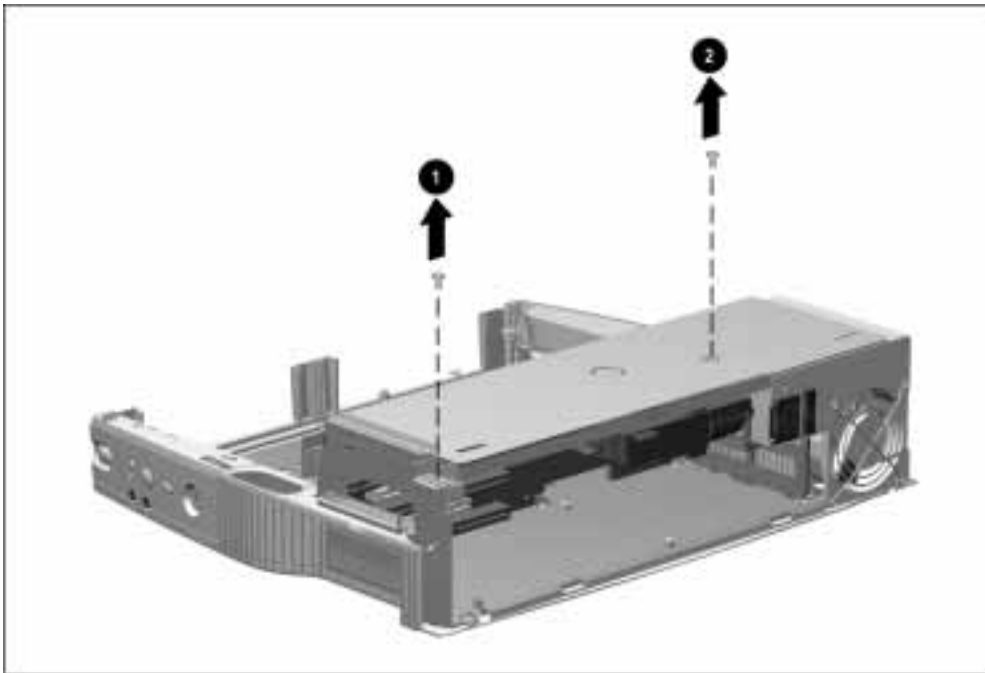

Figure 5-34. Removing the Top Brace Screws
6. Remove the two screws securing the top brace to the base assembly ❶ and power supply ❷ (Figure 5-34).